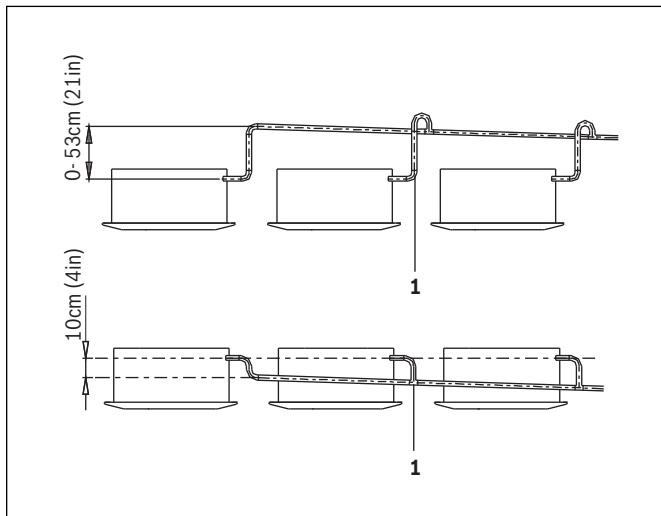

Figure 17
- ▶ When unifying multiple drain pipes, install the pipes as shown in figure 17. Select converging drain pipes whose gauge is suitable for the operating capacity of the unit.